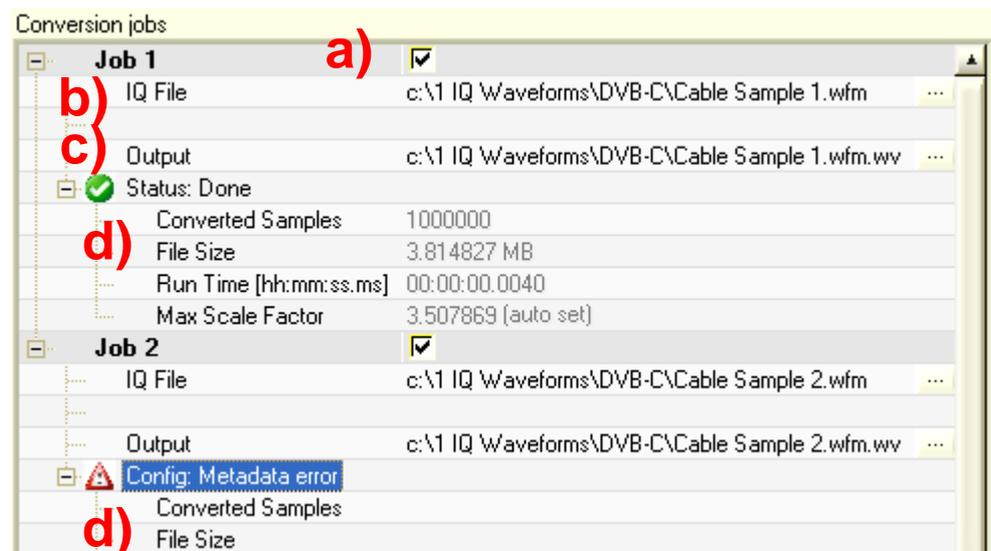

Fig. 2: Job list.
- If the job could not be processed (see the second job in Fig. 2 as an example), an error message will be displayed along with the configuration parameters that did not match the source file.